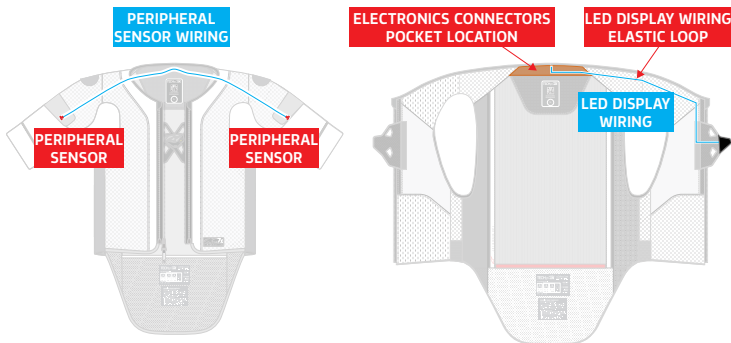

Figure 15: Electronic components location on the System's Base Layer (1);
2. Detach the Electronic Components. Remove the various electronic components (including the LED Display (2) and peripheral sensors) by separating them from the Base Layer (1) (Figure 15). To remove the LED Display (2), open the Velcro located under the Front Flap (3) and gently pass the LED Display (2) through the opening of the vest. When you remove the LED Display (2), be careful as you pass the electronic LED board through the elastic loop (located in the shoulder area) that is used for the correct positioning of the cable. To remove the peripheral sensors, access the shoulder area internally, open the Velcro, and remove the sensors from their pockets. Finally, access the pocket inside the upper back area and open the Velcro very widely, so as not to obstruct the removal of the various components.